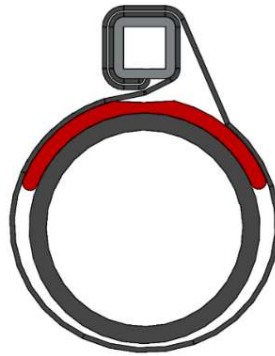

Figure 10 – Wrench Adapter Assembly Configuration for Re-Entrant Tip Inspection
- 3.1.1 Per Figure 10, Insert Tool Support for WA-001 (156-99-005) [red semi circle] between the Rubber Collar and Strap of Wrench Adapter (WA-001). Rotate Square Tube of Wrench Adapter counterclockwise to remove slack in Strap and ensure it remains in the channel of Tool Support for WA-001.